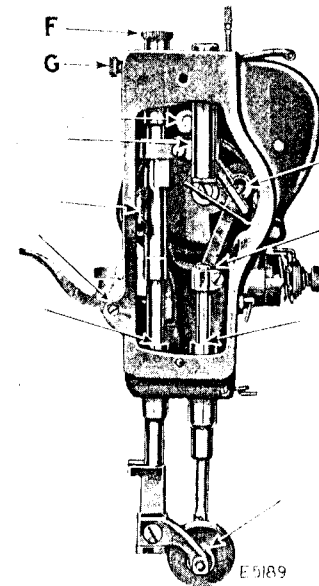

FIG. 4. END VIEW OF MACHINE, SHOWING OILING POINTS
the top of the machine at the right, and oil the bearings and connections which are thus uncovered, then replace the cover. Loosen the thumb screw near the upper end of the face plate, pull out the lower end of the face plate and turn the plate upward, and fasten by tightening the thumb screw. Oil the wicks and bearings as shown in Fig. 4, then replace the face plate.
The pressure of the roller presser on the material is regulated by the thumb screw (F, Fig. 4, page 5) at the top of the machine. To increase the pressure, loosen the lock screw (G, Fig. 4) and turn the thumb screw (F) over to the right or downwardly. To decrease the pressure, turn the thumb screw (F) over to the left or upwardly. When the desired pressure of the roller on the material is obtained, securely tighten the lock screw (G).